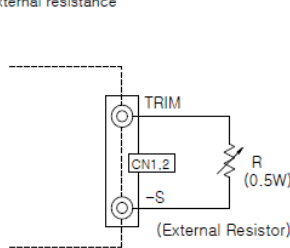

Fig. 6 Output voltage trimming
- o Output voltage is adjustable by connecting resistor into TRIM and -S terminal of CN1, CN2 Connector as shown Fig.6